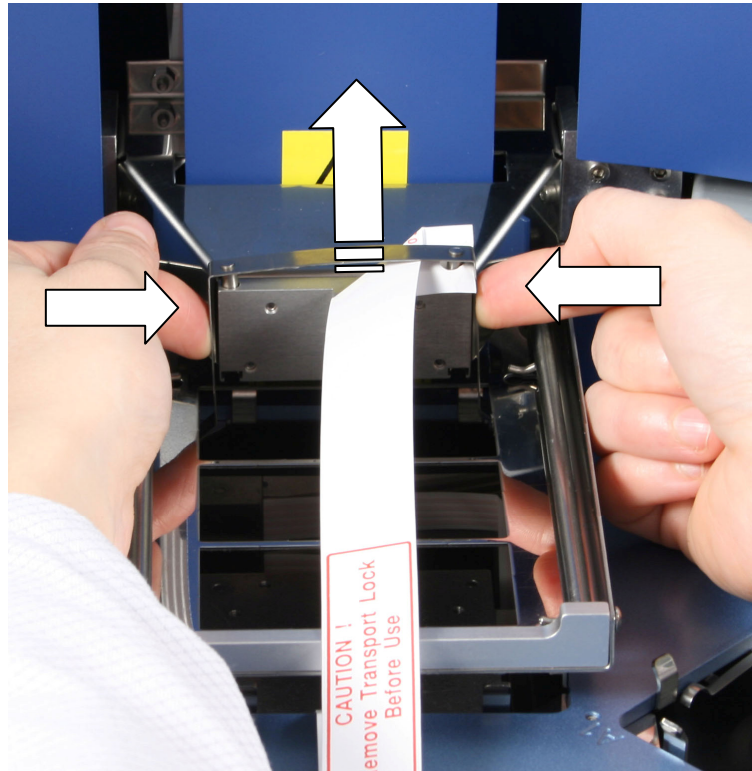
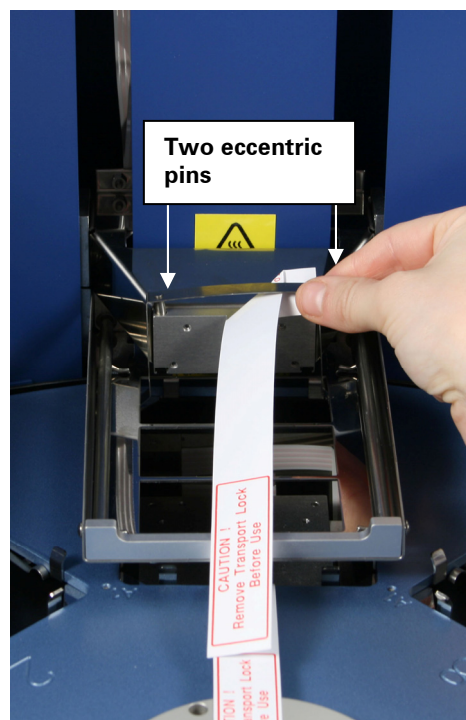
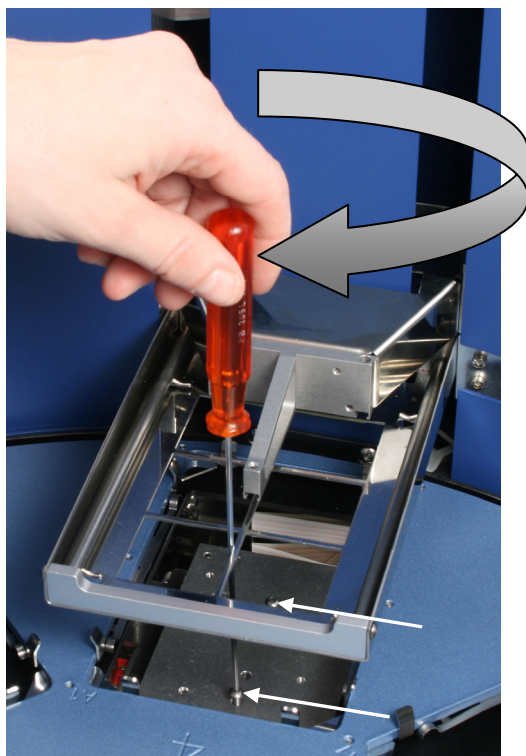

Fig. 5.3 Removing the transport lock of the tip comb holder (B)
Fig. 5.4 Tip comb holder transport lock removed
Fig. 5.7 Fastening the transport lock of the heating block to its storage site
2. Lift the tip comb holder higher and continue pressing the transport lock of the tip comb holder. Remove the transport lock from its location by ejecting it from the two eccentric pins (Fig. 5.3 and Fig. 5.4). When relocating the instrument, refer to Section 5.4.2 How to refit the transport lock of the tip comb holder.
5. Then fasten the screw clockwise to its storage site on the heating block base (Fig. 5.7). The two screws (shown with light gray arrows) on the heating block base guide the heating block into the correct position.
**Keep the transport locks (Fig. 5.4 and Fig. 5.7) for future transportation of the instrument.** Both the transport locks have been successfully removed. When relocating the instrument, refer to Sections 5.4.1 How to refit the transport lock of the heating block and 5.4.2 How to refit the transport lock of the tip comb holder.